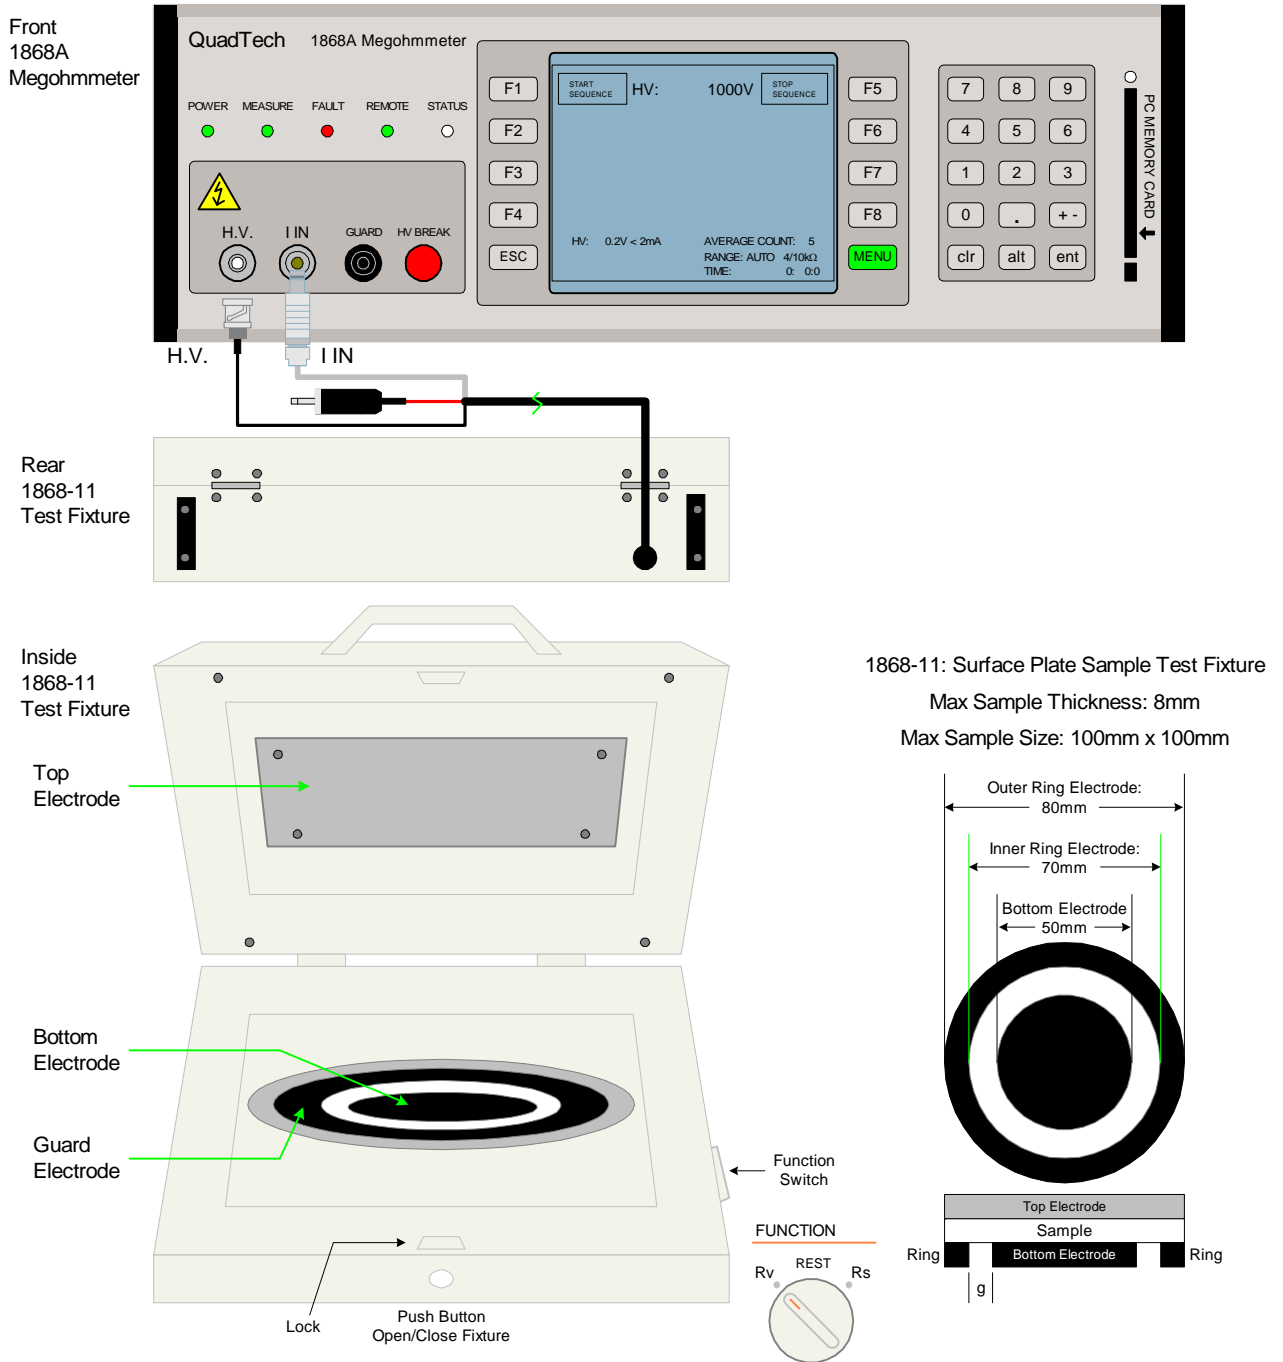

Figure 2-36: 1868A connected to 1868-11 Resistivity Test Cell
The 1868A Megohmmeter can be used with the 1868-11 Resistivity Test Cell to make surface and volume resistivity measurements on flat plate samples. Make connections carefully as illustrated in Figure 2-36. It is important to follow these directions exactly to avoid improper measuring techniques and damage to the test fixture. Proper knowledge of material and fixture allows the DUT to be measured accurately while taking into account correct polarity. **To connect the fixture to an 1868A Megohmmeter:**
4. For accurate measurements perform a zero each time the voltage is changed and each time the Rs/Rv switch setting on the fixture is changed. Refer to Figure 2-36.